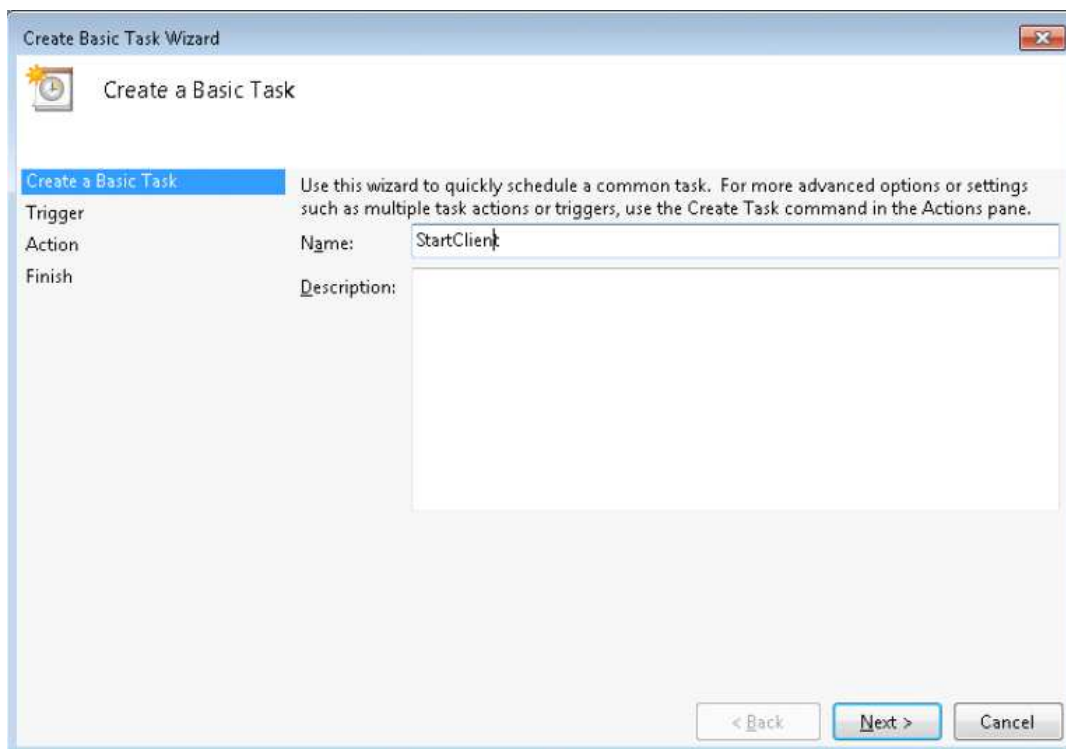

Fig. C.34: Create Basic Task Wizard window
STEP 3 – In *Create Basic Task Wizard* window please insert the task name and then click *Next* (Fig. C.34).